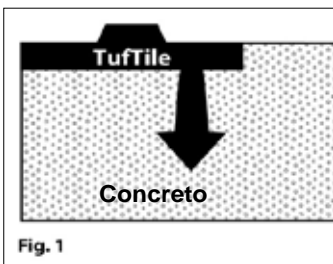

Fig. 1
4. Slowly press the TufTile into the wet concrete until the base of the truncated domes is flush with the concrete. **(Figure 1) Do not stand on the tile during installation.** (TufTile polymer products are not recommended for asphalt installations)